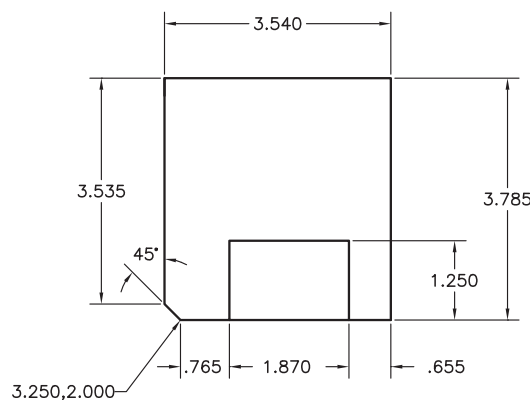

Fig. 7-11
- Draw the  $3\frac{1}{2}$ " disk shown in Fig. 7-11 with dynamic input on. If necessary, temporarily change the default settings for dynamic input in the **Pointer Input Settings** dialog box. Save the drawing as **prb7-2.dwg**.